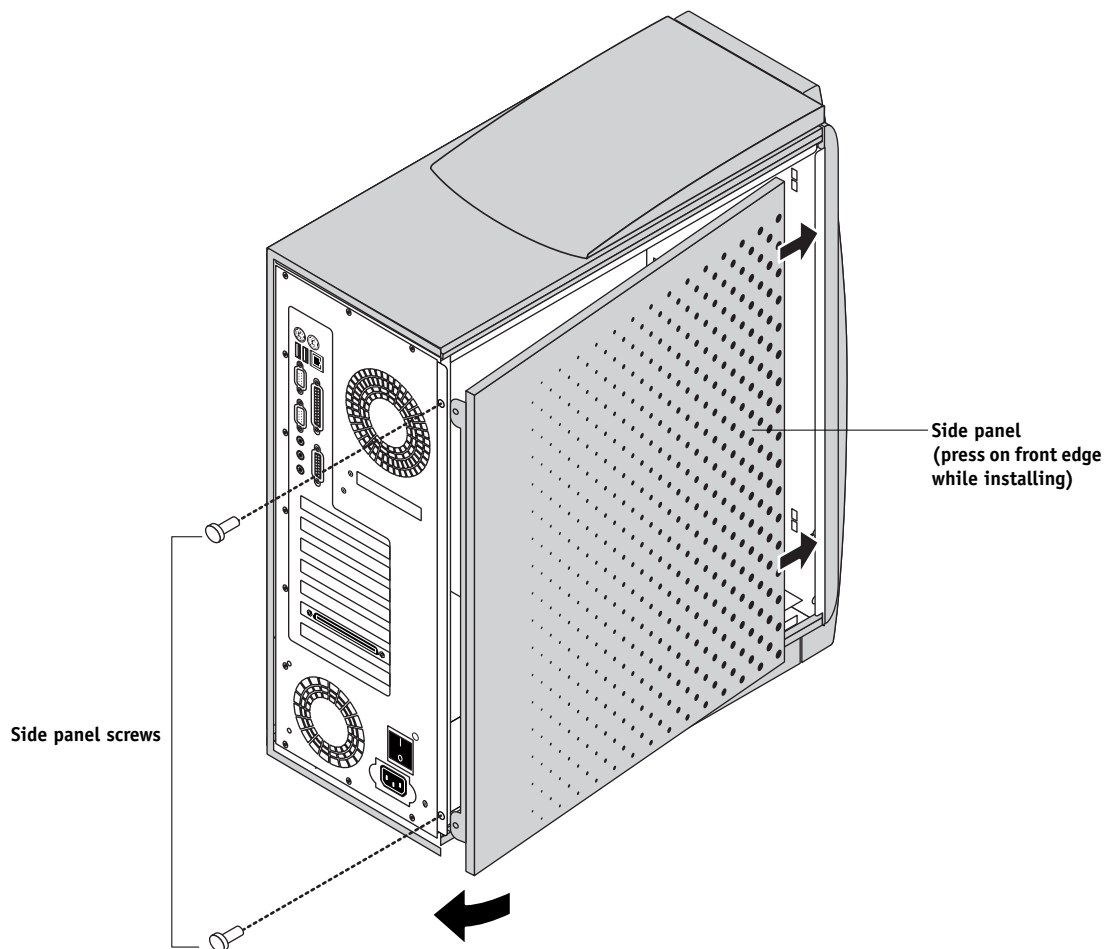

FIGURE 4-7 Replacing the side panel
4. Slide the side panel into the grooves along the edges of the chassis (see Figure 4-7).